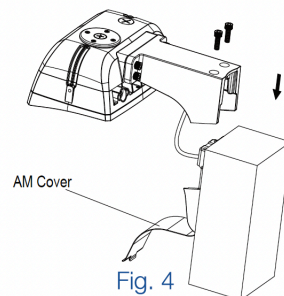

Fig. 4
6. Insert Part A into Part B and lock with two (2) 8mm Allen bolts. Close the arm cover (Fig. 4). **Do not overtighten the bolt, the recommended torque value is 4.5 Nm (40 in/lbs).**